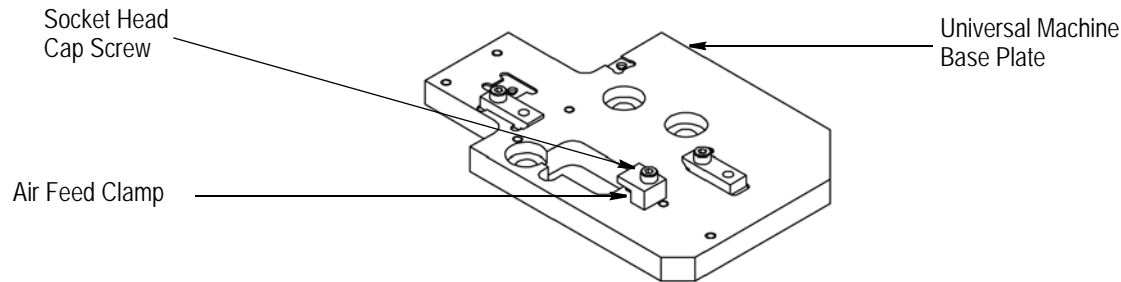

Figure 30
- b. For Air Feed Kit 1424266-2 (universal machine base plate), install the socket head cap screw (as shown in Figure 30) and Air Feed Clamp 1338963-1. Then remove the back left baseplate clamp.